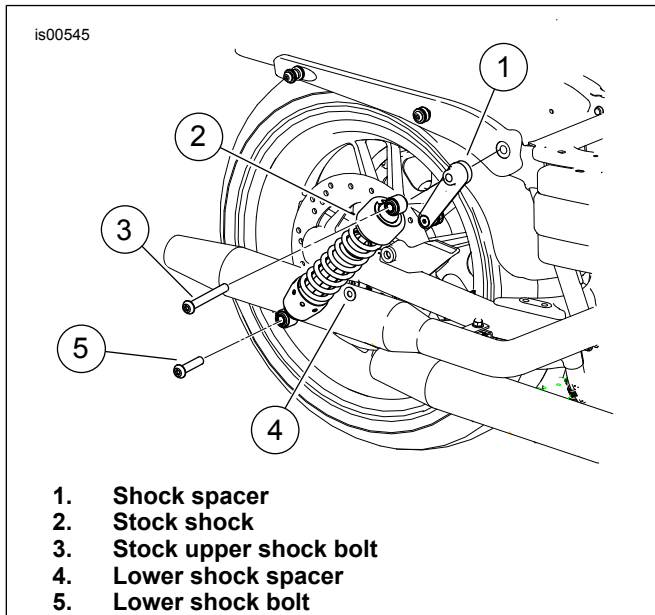

Figure 3. Third Docking Point Installation
- See Figure 3. Apply Loctite 243 to the kit's lower shock bolt (5) and assemble the lower shock to the rear fork with the new lower shock spacer (4) between the shock and the rear fork. Tighten the lower shock bolt to 41–61 N·m (30–45 ft-lbs).